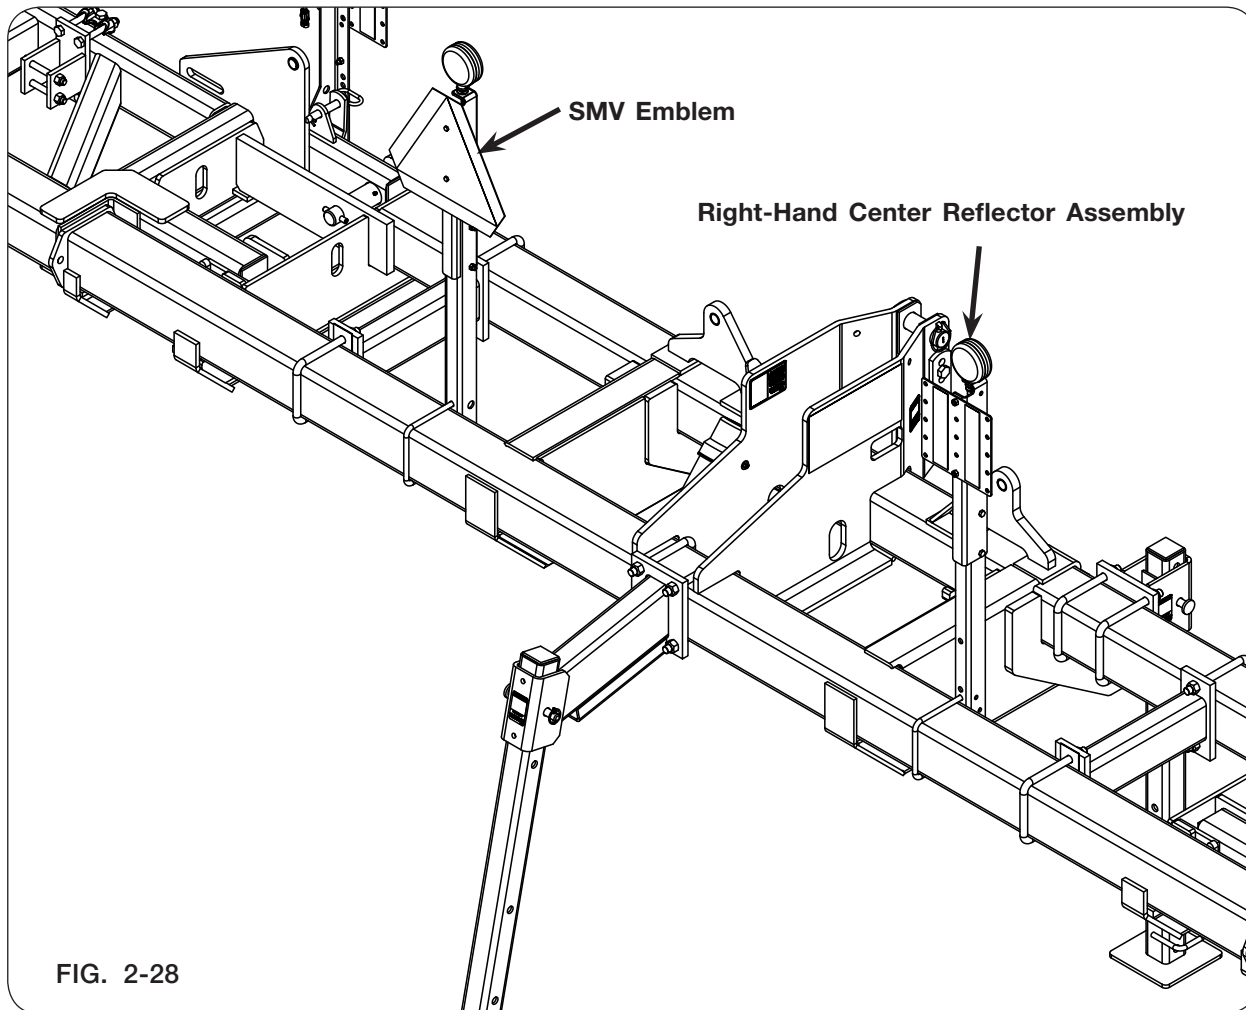

FIG. 2-28
4. Attach the SMV assembly to the left-hand side of the frame with a 1/2"-13UNC U-bolt (9005460) and 1/2"-13UNC lock nuts (9800) (FIG. 2-28). Refer to the OVERHEAD LAYOUTS for proper placement.
5. Attach the right-hand center reflector assembly to the right-hand side of the frame with a 1/2"-13UNC U-bolt (9005460) and 1/2"-13UNC lock nuts (9800) (FIG. 2-28). Refer to the OVERHEAD LAYOUTS for proper placement.